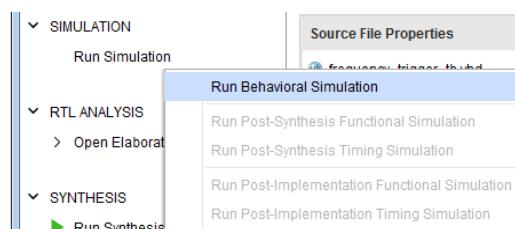

Figure 2.34: Run Behavioral Simulation option
3. Choose the only offered **Run Behavioral Simulation** option, see Figure 2.34, and your simulation will start.